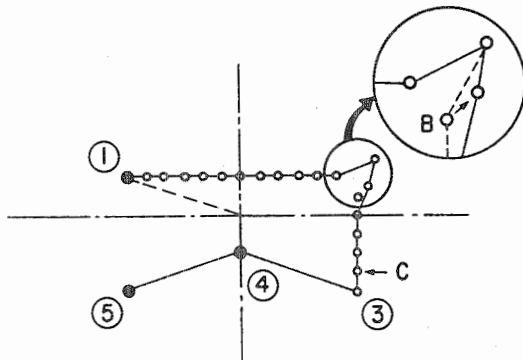
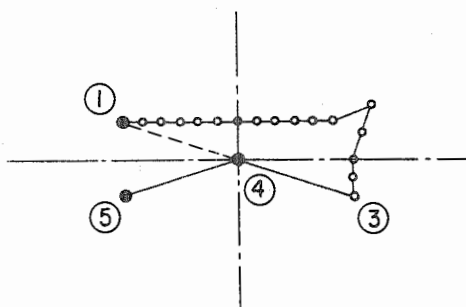

Fig. 5
Fig. 6
Step 17 Move the needle to position B show in Fig. 5. Then press the **8** and **2** keys until **02** [Point movement (absolute)] is shown by the **Function** LED. Then press the **Reset (Select)** key.
Step 20 Move the needle using the **Forward** and **Backward** keys, and confirm that the needle entry point has been moved as illustrated in Fig. 5.
Step 21 Move the needle to position C shown in Fig. 5. Then press the **8** and **2** keys until **11** [Point deletion (relative)] is shown by the **Function** LED. Then press the **Reset (Select)** key.
Step 23 Press the **Forward** key until the needle reaches position ③. Then press the **Counter (Set)** key.
Step 24 Move the needle using the and keys, and confirm that the needle entry point has been erased and the pattern after the deleted point has moved as illustrated in Fig. 6.
Step 25 Move the needle to position ④ shown in Fig. 6. Then press the and keys until [Point movement (relative)] is shown by the LED. Then press the key.